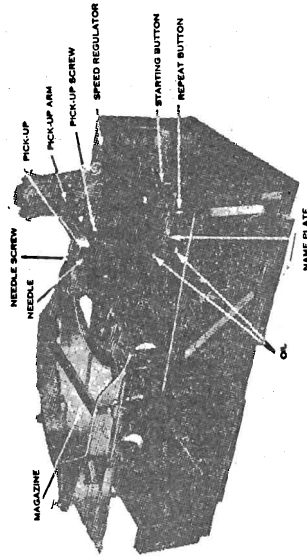

FIGURE 5
In case it is desired to play the same record over, the repeat Button *figure 5* is moved to the left. This moves Repeat Lever 809 *figure 2* causing it to press against Drive Dog 522 causing the Dog to recede and not catch on Eject Drive Arm 790. Eject Drive Arm 790 remains stationary and the Eject Slide does not move. The Cam revolves and the Turntable goes through all of the elevating positions except the discard elevation. Eject Arm 790 does not allow Roller 845 to drop to the discard elevation in Cam 789 *figure 1*, thus the record will be repeated until the Repeat Lever is moved to the right.
In starting or rejecting records, the Starting Button *figure 5* is pressed. When this Button is pressed slightly, it causes the contacts in switch 897-A *figure 2* to be spread apart which changes the fields in the motor from a series connection to a parallel connection for a greater starting torque. Pressing down further causes Lever 662 *figure 2* to act against Throwout Lever Trip 814 and trip mechanism which discards the record. This is the same action as though it were tripped with the Dogs 813 or 814.
upper side of the motor board *figure 5* are two (2) pipe plugs marked "OIL." Remove these plugs and inject a quantity of oil in the tubes under them. This lubricates both armature shaft bearings. The wick type oil wells used on the bearings keep the bearings well lubricated for a six (6) months period of normal operation.